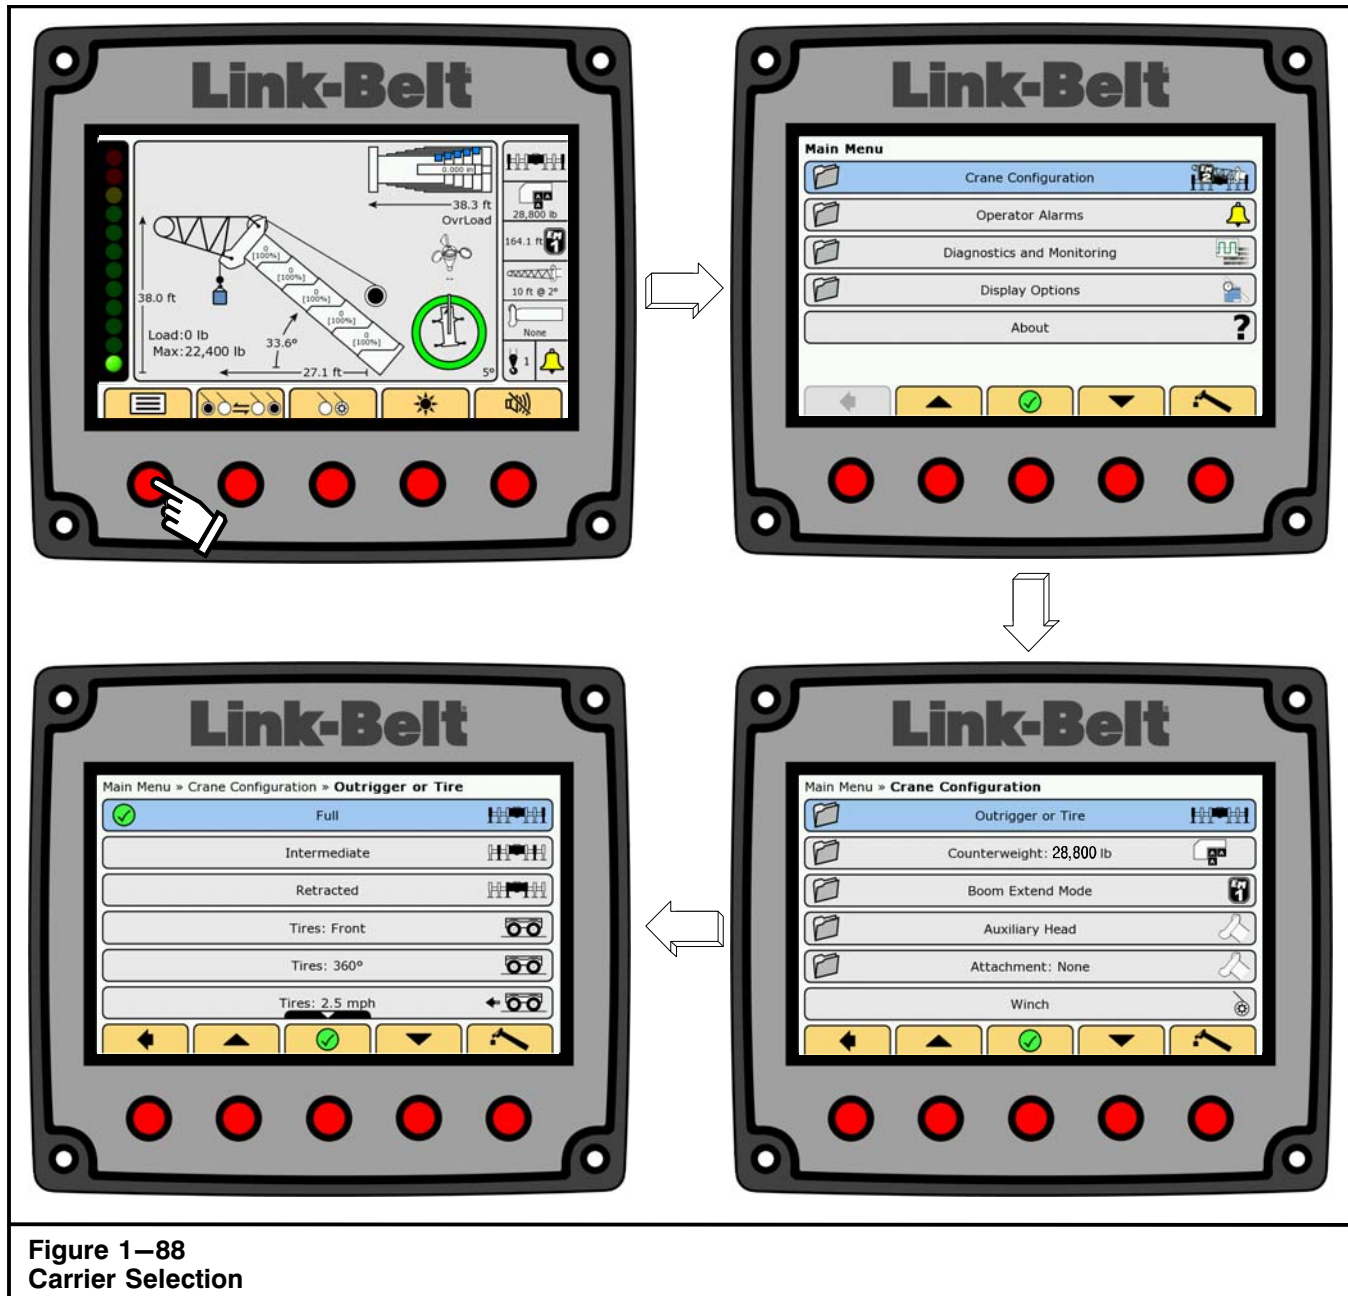

Figure 1-88
3. Scroll to Outrigger or Tire, and press the OK/Enter button . Refer to Figure 1-88.